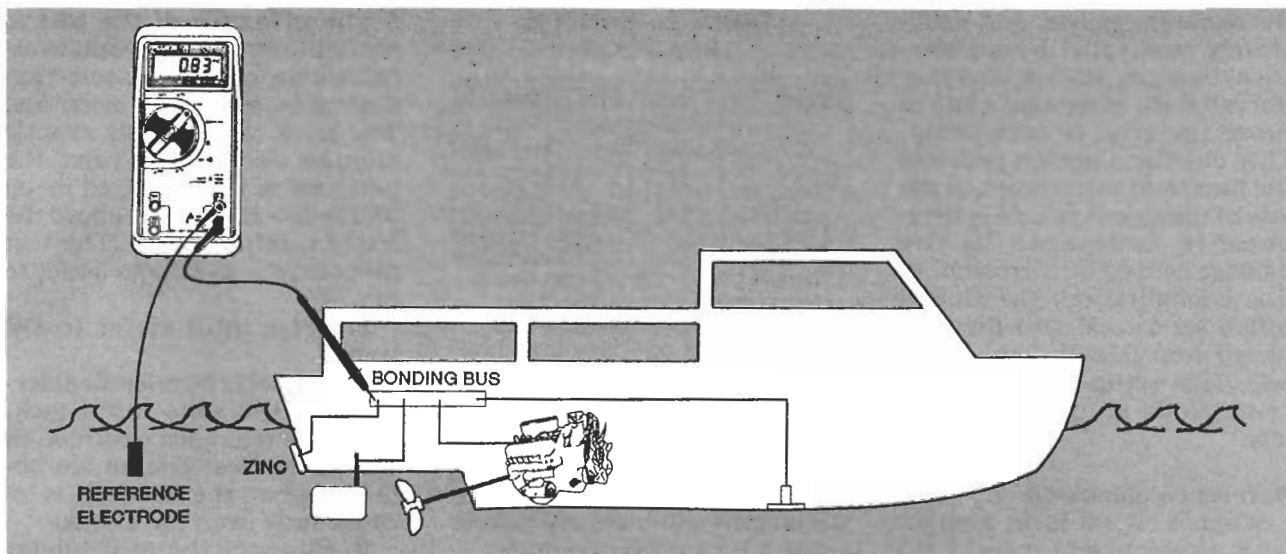

FIG. 10—TESTING THE CORROSION protection on your boat using a reference electrode.
The principle of the test is straightforward: You want to establish the corrosion protection system by supplying electrons. The trick is to supply exactly enough electrons to raise the potential of the protected metal 250 millivolt (1/4 volt) above the freely existing value. The test procedure is as follows (Refer to Fig. 10):
4. Touch the common probe to each underwater metal fitting and record the millivolt value as displayed on the meter. If all underwater metal fittings are connected together with a bonding system, as shown in Fig. 10, then all readings should be identical. Some typical values for several metals are listed in Table 2.